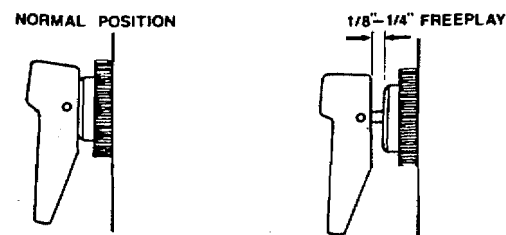
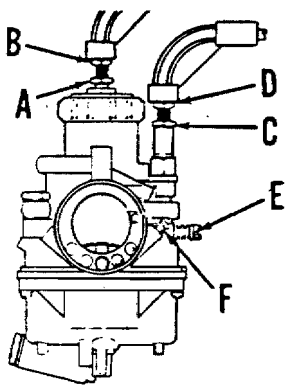

Figure 1
Figure 2
To check your choke adjustment, idle the engine and flip the choke toggle over center to full on position. The engine should become rich and stop running. If the engine does not stop, this indicates that your chokes are not properly adjusted. If the engine will not start easily, this may be a sign that the choke may not be functioning properly and needs adjustment. The proper free play of the choke lever is shown in figure 1.
If there is no free play, the starter plungers may not be seating in the carburetor causing flooding or plug fouling. This adjustment may be achieved by loosening jam nut (C) (figure 2) and rotating adjusting nut (D) in the direction required to achieve proper free play as shown in figure 1. Proper free play is approximately 1/8" - 1/4".
2. With the engine shut off, squeeze the throttle to wide open position and hold. Place your finger up into the slide chamber to check slide valve clearance. The slide valve must clear the carburetor venturi. Both slide valves must raise evenly when the throttle is depressed. Synchronizing may be achieved by balancing slide valve movement. This is done by loosening jam nut (A) (figure 2) and rotating throttle cable adjustment nut (B) in direction desired. Re-tighten jam nut.